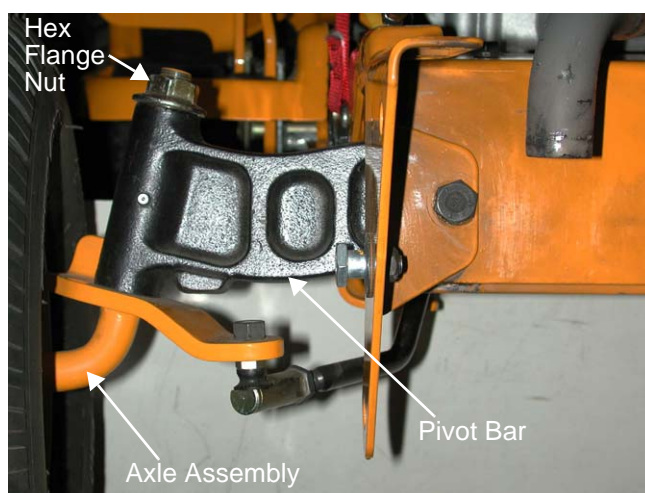

Figure 37.12
- 37.12. Loosen the large hex flange nut or remove the push cap securing the right axle assembly to the pivot bar using a 15/16" socket. See Figure 37.12.